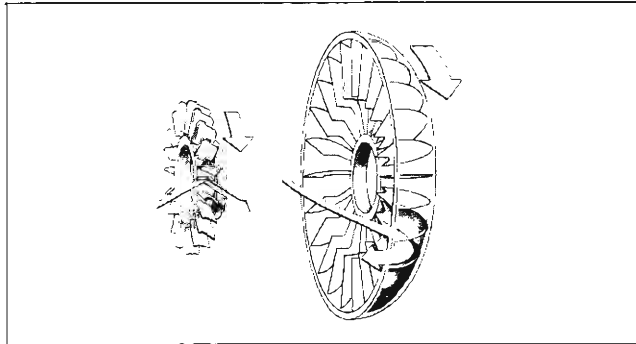

Fig. 7C-8 Torus Operation—Step 3
**Step 2.** After the oil has acted on the driven member the oil is forced to the torque multiplier (Fig. 7C-7).